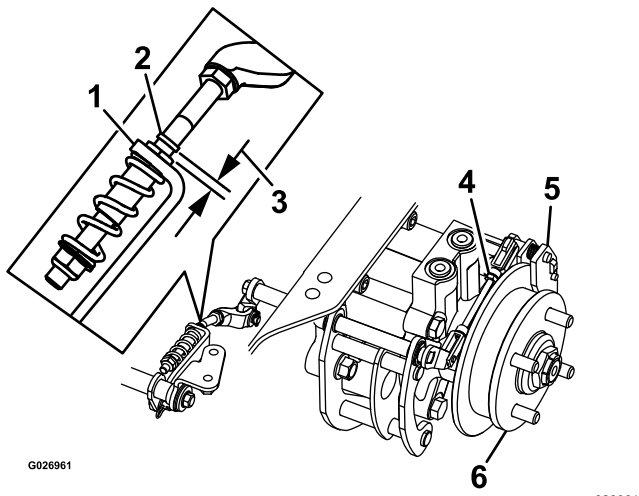

Figure 79
7. Check to see if there is a visible gap between the L-bracket and the linkage stop (Figure 79).